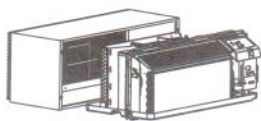

Fig.10
- Lift unit level and slide unit into wall sleeve until firmly against front of wall sleeve and secure with 4 screws and washers (supplied in the SLEEVE ASSEMBLY) through the unit flange holes. (See Fig.10 and Fig.11)